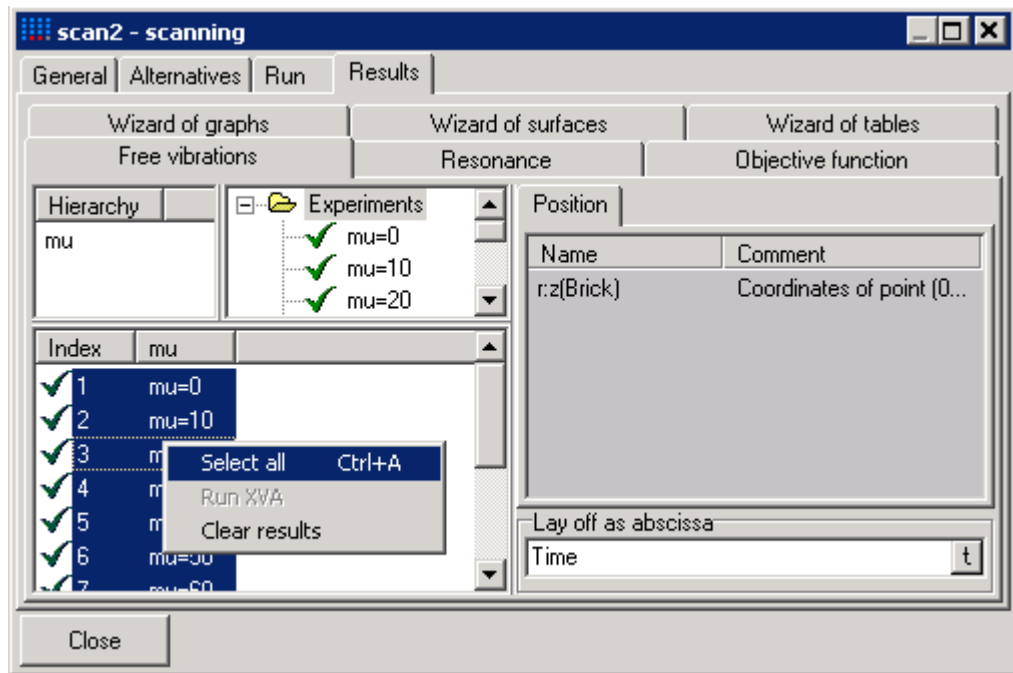

Figure 2.15.
3. Select the project window and select all experiments in the left bottom side of the window (**Free vibrations** family), see Fig. 2.15. To select all experiments you can use the **Select all** context menu command or mouse + **Shift** or **Ctrl** buttons.